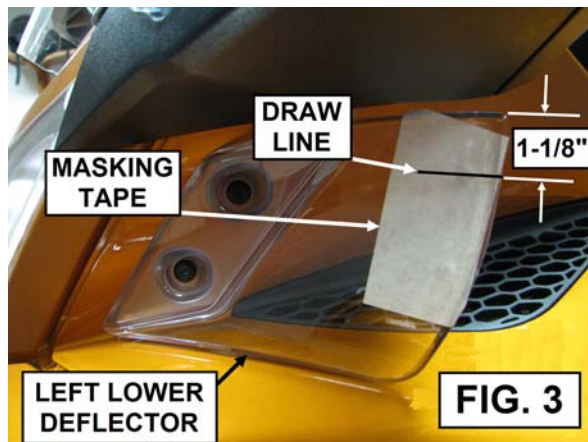

FIG. 3
3. PLACE A PIECE OF MASKING TAPE ABOUT 4 INCHES LONG ON THE FRONT OF THE LEFT OEM WIND DEFLECTOR AS SHOWN IN FIG. 3.
4. USING A PENCIL OR PEN MAKE A LINE 1-1/8" DOWN FROM THE TOP OF THE OEM WIND DEFLECTOR AS SHOWN IN FIG. 3.